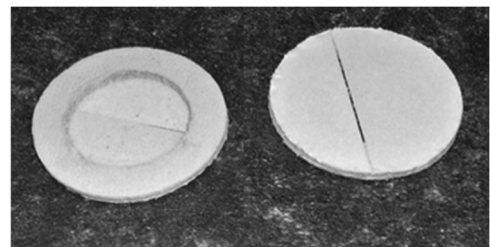

Figure 4: New valve seats with paper
3. A simple cardboard jig was used to centre a 25 mm punch so the outside of the ring could be cut concentrically with the hole. This left the ring stiffened by the weakly sticky paper and with the hole covered by the paper (Figure 4).